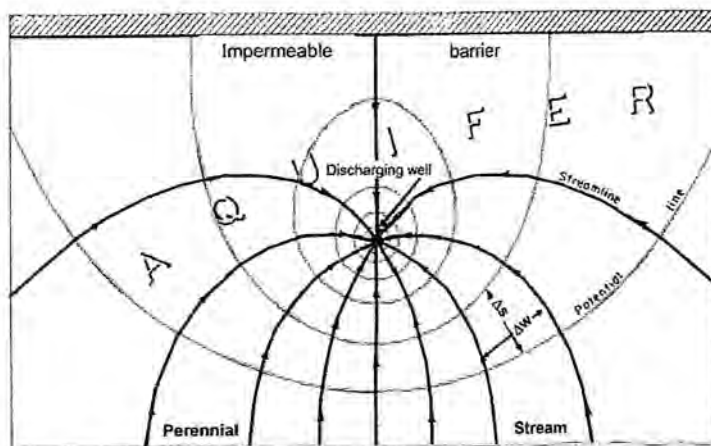

Fig. 3-4: Flownet for pumping well (plan view)
- Ten flow tubes terminate at the well (Figure 3-4). The head contour between the equipotential lines is 10 m. What is the total flow into the well?
with the length of a flow cell in the direction of flow Δs equal to the width of the cell Δw (See Figure 3-4). Thus, multiplication by 10 for the total number of stream tubes and by the thickness $b = 20 \text{ m}$ gives the total flow into the well: